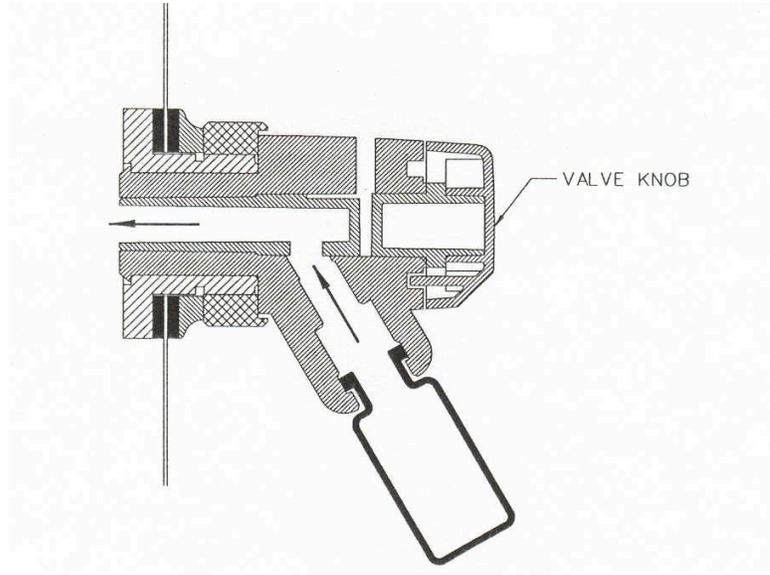

Figure 3
7. When the system is ready to begin lyophilization, attach the container with pre-frozen sample to the valve. Apply vacuum to the sample by rotating the knob to the vacuum position. (The bevel on the knob should be positioned toward the sample port). See Figure 3.